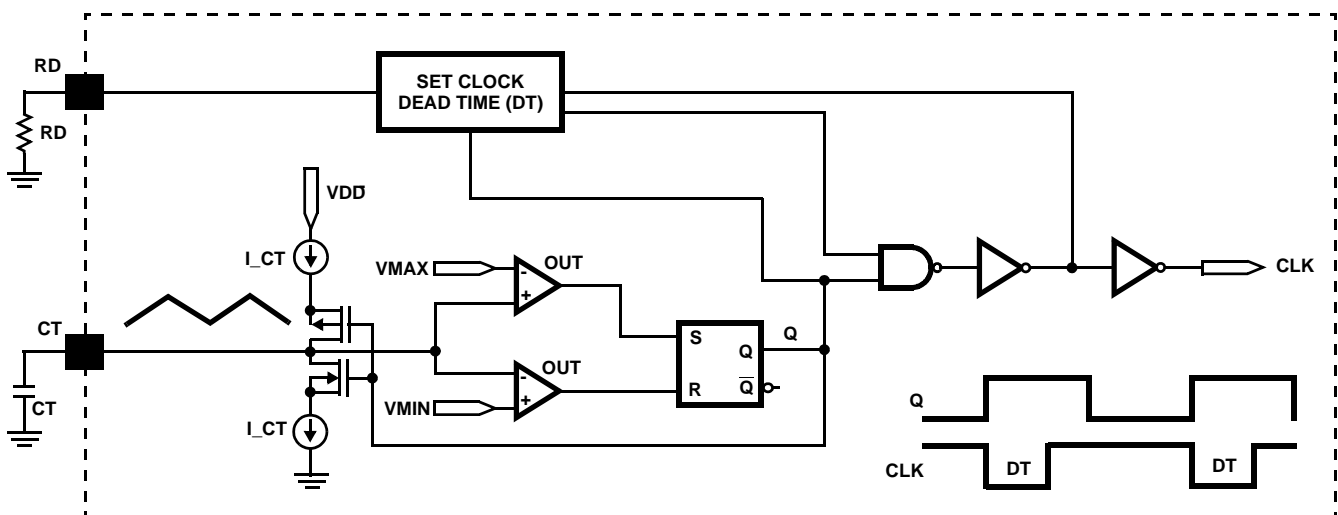
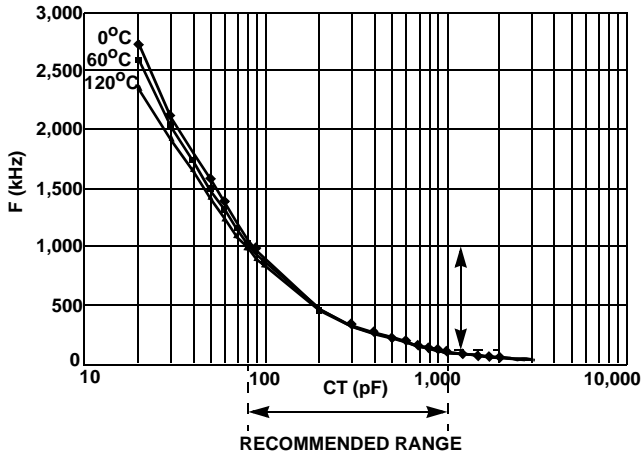

FIGURE 1. SIMPLIFIED CLOCK GENERATOR CIRCUIT
FIGURE 2. CT vs. FREQUENCY
- This free-running oscillator is set by two external components as shown in Figure 1. A capacitor at CT is charged and discharged with two equal constant current sources and fed into a window comparator to set the clock frequency. A resistor at RD sets the clock dead time. RD and CT should be tied to the VSS pin on their other ends as close as possible. The corresponding CT for a particular frequency can be selected from Figure 2.